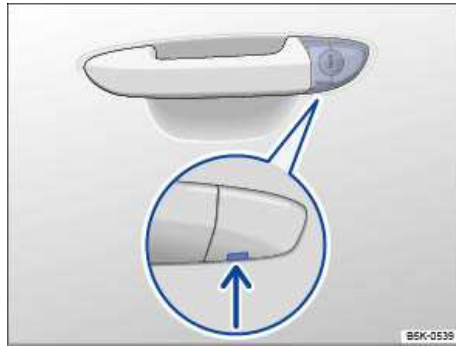

Fig. 164 Door handle on driver door: Concealed lock cylinder (if applicable).
- If the vehicle has a concealed lock cylinder, insert the key bit from below into the opening of the cover cap on the driver door ⇒ **fig. 164** (arrow) and lift the cover cap off. Grasping the door handle and pulling slightly makes it easier to remove the cap.